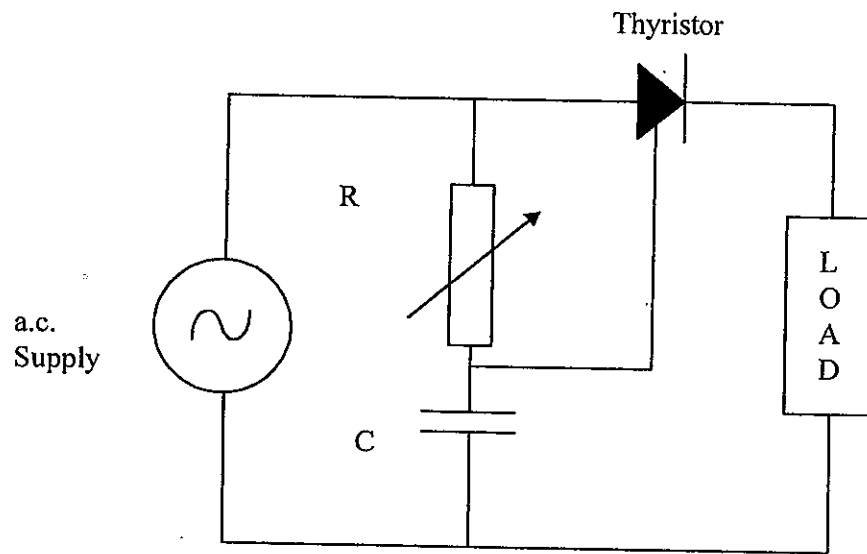

Fig Q9
- (c) the efficiency at 80% full load and unity power factor. (6)
- (a) state TWO reasons why the starting current is much higher (typically 3-6 times) than the full load running current; (4)
- (b) explain why the rotor power factor is very low on starting (typically 0.2); (3)
- (c) explain why almost the entire iron loss occurs in the stator, with only a tiny iron loss in the rotor; (3)
- (d) describe, with the aid of a sketch, one form of construction which provides improved starting torque and reduced starting current. (6)
8. (a) List the advantages of turbo-electric or diesel-electric drive systems for marine propulsion. (6)
- (b) Explain ONE method by means of which the synchronous propulsion motor is brought up to speed when requires for service. (6)
- (c) Explain how reversal of the drive motor is achieved without reversal of the prime mover. (4)
9. (a) State the conditions necessary for *turn on* and *turn off* of a thyristor (silicon controlled rectifier). (4)
- (b) (i) describe the operation of the circuit shown in Fig Q9. (8)
- (ii) sketch the load current waveforms for EACH of the following switching delay angles: (2)
- (1)  $45^\circ$  (2)
- (2)  $120^\circ$  (2)